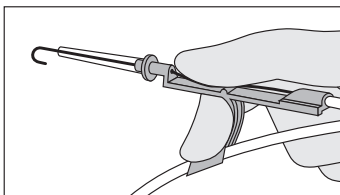

Figure 1
- Using thumb, straighten the "J" by retracting guidewire into Arrow Advancer (refer to Figures 1 and 2).